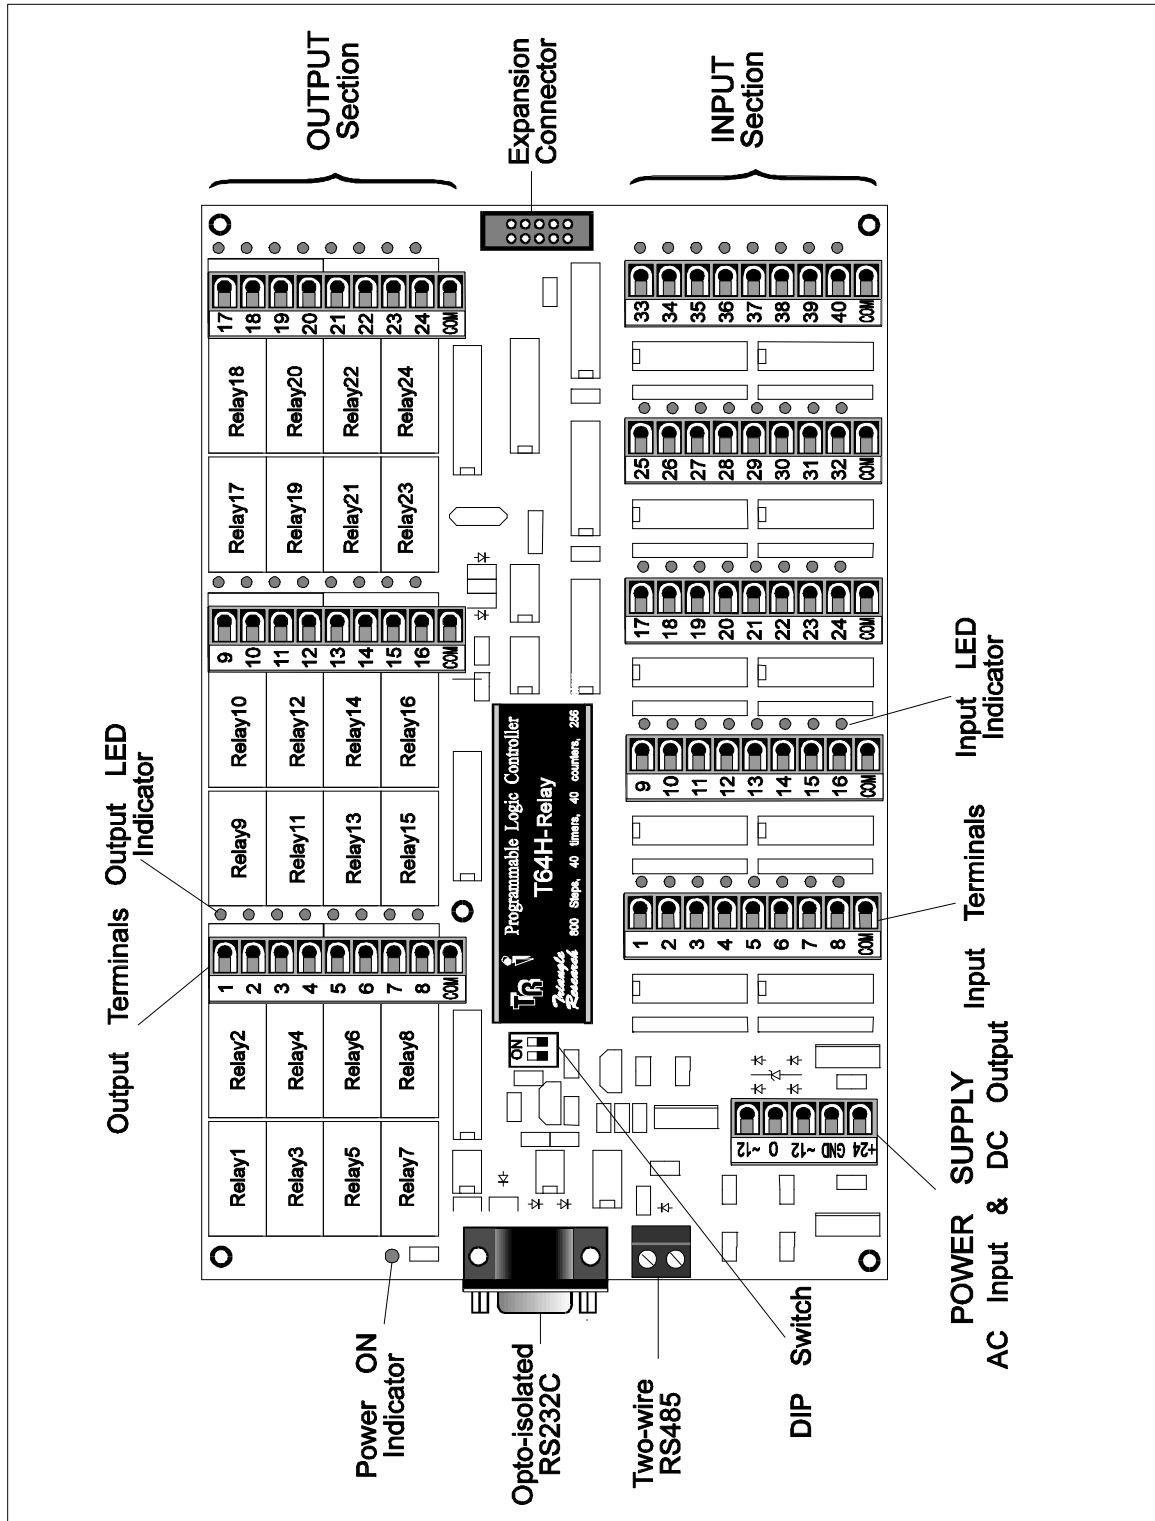

Figure 3 - T64H-Relay Programmable Controller
The highly compact T64H-RELAY controller can be easily installed in many plastic or metal enclosures. There are 5 mounting holes on the controller board (see Figure 3 on next page), and you only need to use 5 PCB standoffs to support the controller and to fasten it to a console box.
3. Input Units - There are a total of 40 physical inputs (divided into 5 blocks of 8 inputs each, see Figure 3) in the basic T64H-RELAY. These inputs are numbered from 1 to 40. These numbers correspond directly to the first 40 entries in TRiLOGI's™ Input Table. All the inputs of the T64H-RELAY employ AC opto-isolators and they can be connected to either PNP or NPN type sensors. Every 8 inputs are connected to a separate COMMON point. With expansion board, the T64H-Relay PLC may be expanded up to 72 inputs in the near future.
T64H-Relay allows two computers to simultaneously communicate with the PLC. (See H-Series User's Manual for details on communication protocol). One using the RS232C and the other using the RS485 interface. The RS232C interface is provided via a DB9 female connector and the RS485 interface is provided via a two-pin screw terminal block; both are situated along the left edge of the controller board (See Figure 3).